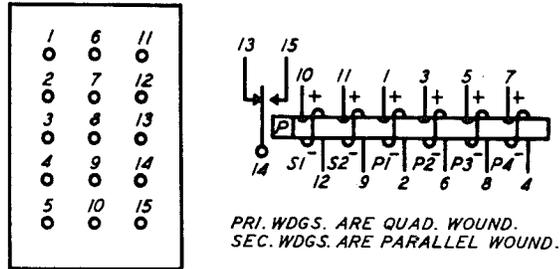

FIG. 21 - WINDING AND SPRING TERMINAL ARRANGEMENT AS VIEWED FROM THE REAR (TERMINAL SIDE)- 209 TYPE RELAYS
2.19 Facing the rear of the relay, the contact and winding terminals are numbered as shown in Figs. 21, 22, 23 and 24. On the 209 type relay, numbers 1, 6 and 11, shown on Fig. 21 are cut in the